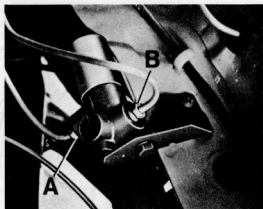

Fig. 9.29. Brake pressure control valve (Sec. 19)
- 1 A brake pressure sensing valve is located in the engine compartment on the lower left-hand side (see Fig. 9.29).